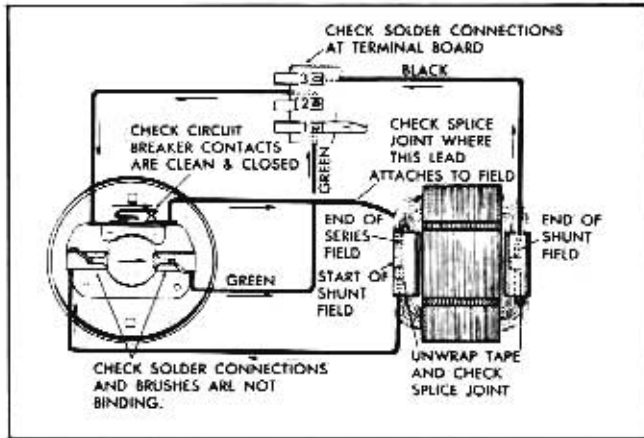

Fig. 11-80 Wiper Assembly Schematic
(a) Disassemble gear box section and unsolder the black lead from terminal No. 3, Figure 11-80.
(d) Connect up leads as required (Figure 11-80).
Approx. 2 Amps	—Open armature, hung brushes, solder connections, broken green lead, etc. (Figure 11-80).
0	—Dirty or defective circuit breaker contacts, solder connections at circuit breaker terminals (Fig. 11-80).
1. Check that wiper has “Lo” speed. If wiper has only one speed (fast), look for an open shunt field circuit (Fig. 11-80).
1. Check for an open shunt field circuit (Figure 11-80).
1. Look for a grounded condition in the shunt field circuit (Fig. 11-80).